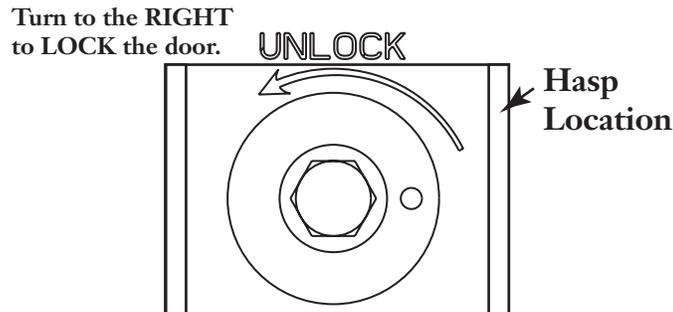

Figure 19 — Close and Lock Door Latch
- Step 2** Close the door and, using a 216B tool, rotate the tool to the right to lock the door latch (Figure 19). For additional security, insert a padlock through the holes in the hasp around the 216B latch.
Step 8 Close and lock the door with a 216B tool by twisting the locking mechanism to the right. (Figure 19)